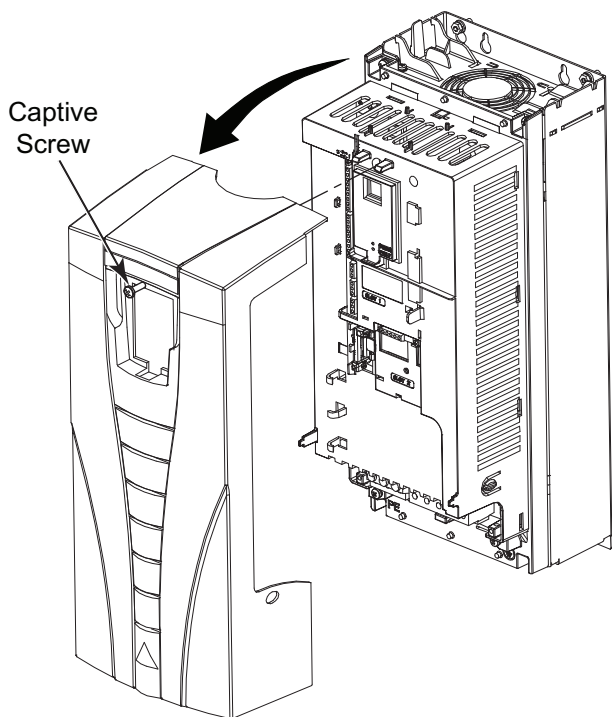

Fig. 24 - Remove VFD Front Cover
2. Remove the VFD's front cover (see Fig. 24)